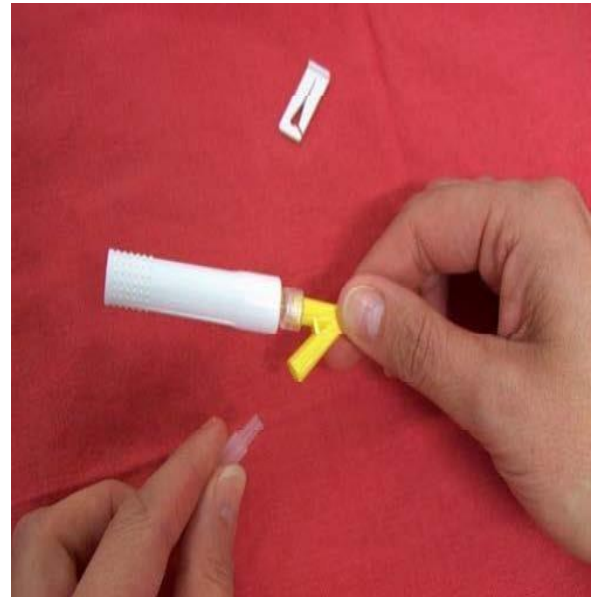

Fig 2.
2. Remove small clear plastic cap from the “Y” junction of device (Fig 2.)